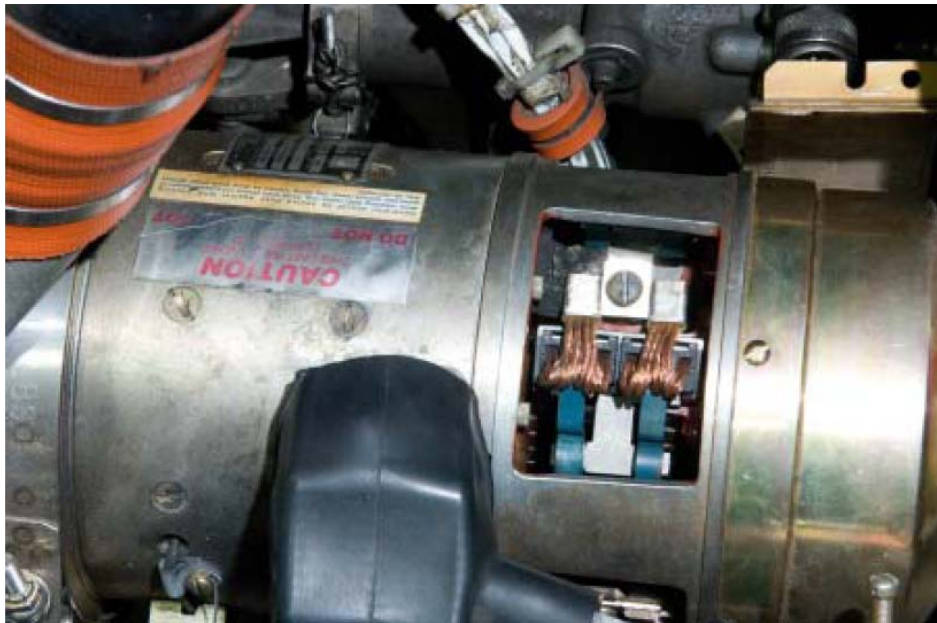

Figure 2
2. Remove Brush screw from Brush Set #1. (Terminal Block to left of brush set.) See Figure 2.